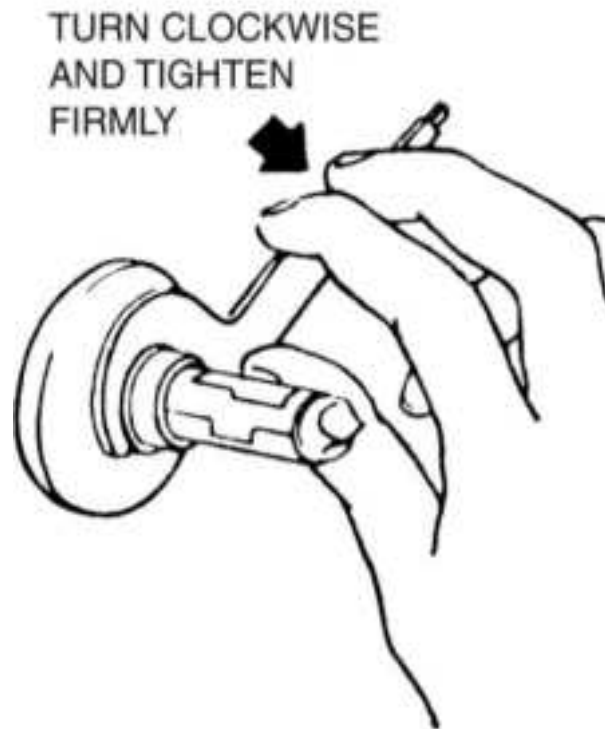

**Figure 19.49** Electrified key-in-knob lock installation, Step 6.
6. Secure the trim by replacing the rose and screwing it on to the threaded spindle with your fingers as far as it will go. Tighten the rose with the spanner wrench (Fig. 19.49 ).